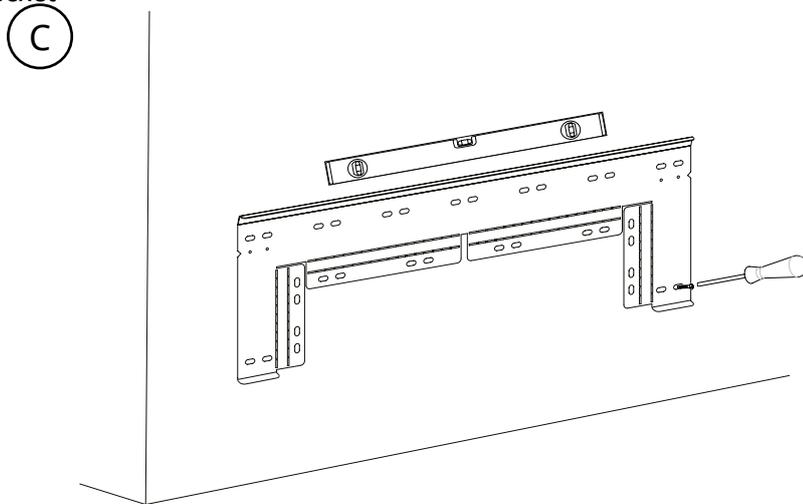

Fig. 3: Mounting wall bracket
1. Mount the wall bracket stable on the wall with screws in the oval holes (at least 2x). It is important that the wall bracket is aligned to a straight horizontal position. Guide holes on the wall bracket can be used to mark out where the bracket should be positioned to end up 10 cm above the floor. Fig. 3.